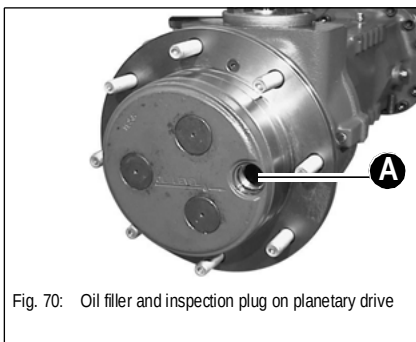

Fig. 70: Oil filler and inspection plug on planetary drive
- 4 Place plug **A** in the position shown in fig. 70 (plug must be in horizontal position)